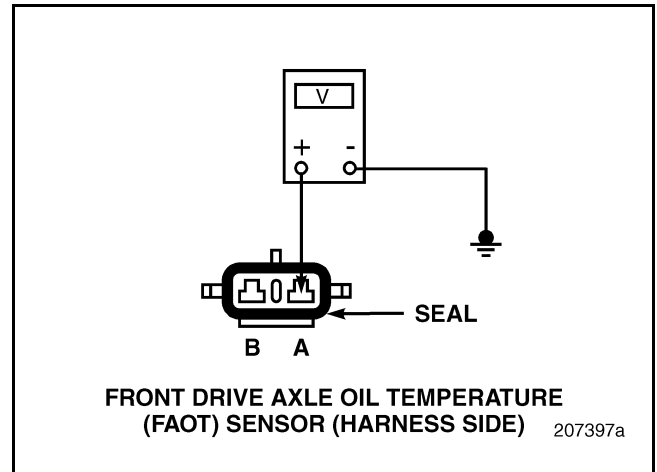

Figure 240
3. Measure the voltage between FAOT Sensor harness connector pin A and a good ground (see Figure 240).